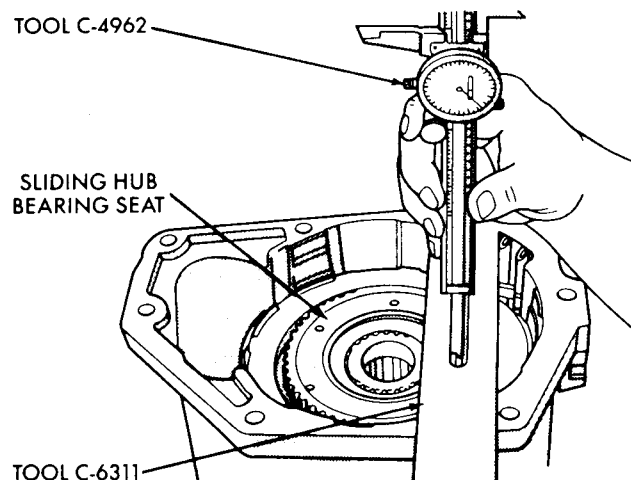

Fig. 8—Measure for Overdrive Piston Shim
(11) To determine the proper shim thickness for the overdrive piston: Position Tool C-6311 across overdrive case face. Using dial caliper Tool C-4962 positioned over Tool C-6311, measure distance to the sliding hub bearing seat (Fig. 8).
(12) This measurement should be taken at four locations 90° apart. Add all measurements together and divide by four (4). Using this measurement, select the proper thickness shim from the chart below: